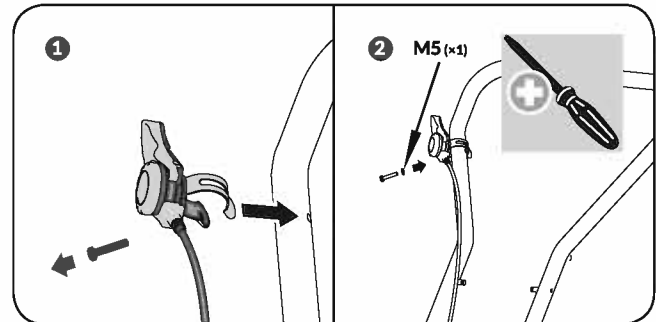

Figure 2c
4. Unscrew bolt 5×35 from throttle control. Secure the throttle control onto the upper handle with a flat washer 5 and the bolt 5×35 that just were unscrewed. (See **Figure 2c, illustration 1 & 2**)